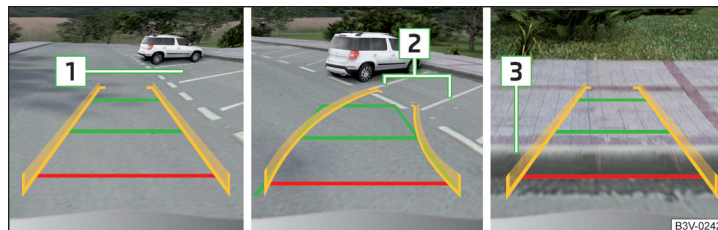

Fig. 265 Screen display
- At the selected parking space **1** » Fig. 265 slowly drive past and stop the vehicle.